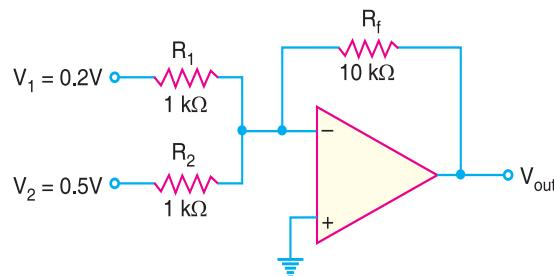

Fig. 25.73
**Example 25.45.** Determine the output voltage for the summing amplifier shown in Fig. 25.73.